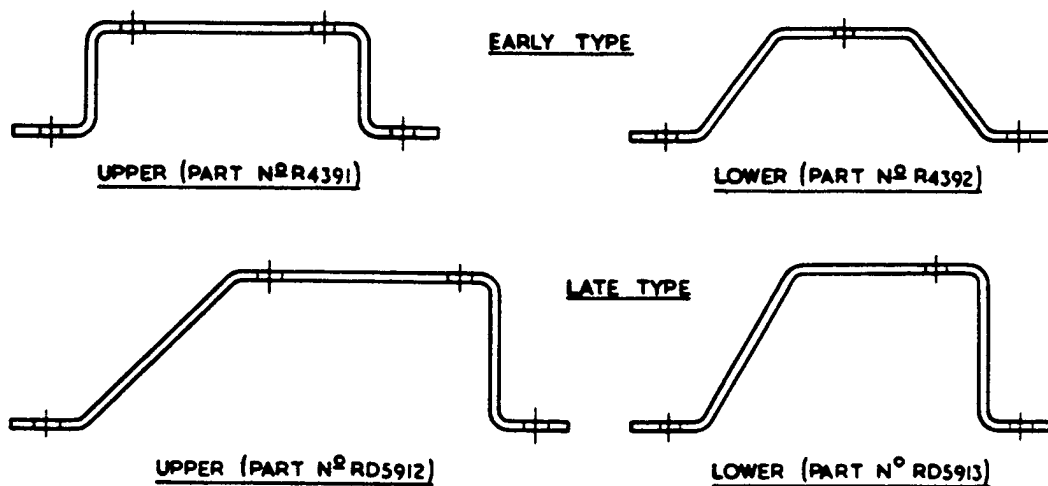

FIG. 4. MOUNTING BRACKETS.
**NOTE:** Due to alteration in the dash layout on the later model chassis, two types of mounting brackets are employed as shown in Fig.4, the upper pair being for use on those chassis fitted with the early type dash (Fig.2), and the lower pair on the later type dash (Fig.3). Where the late type brackets (RD-5912/3) are used, the right-angled bracket arm should be fitted AWAY from the engine.